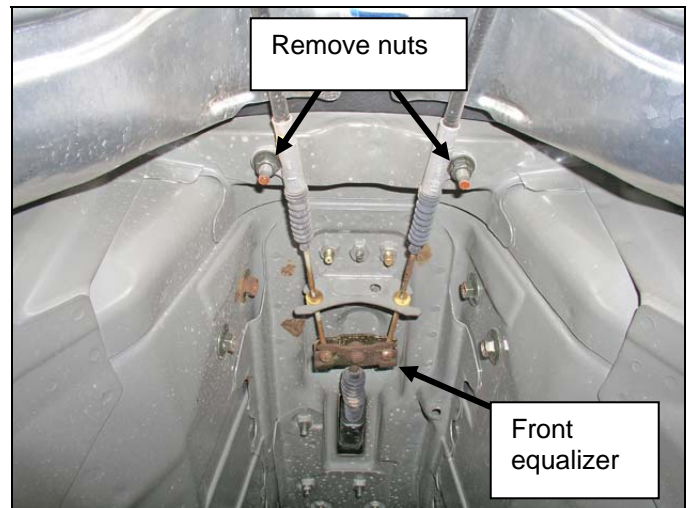

Figure 18
- c. Remove the nuts that hold the parking brake cables to the vehicle body (see Figure 18).
- d. Disconnect the cables from the front equalizer (see Figure 18).